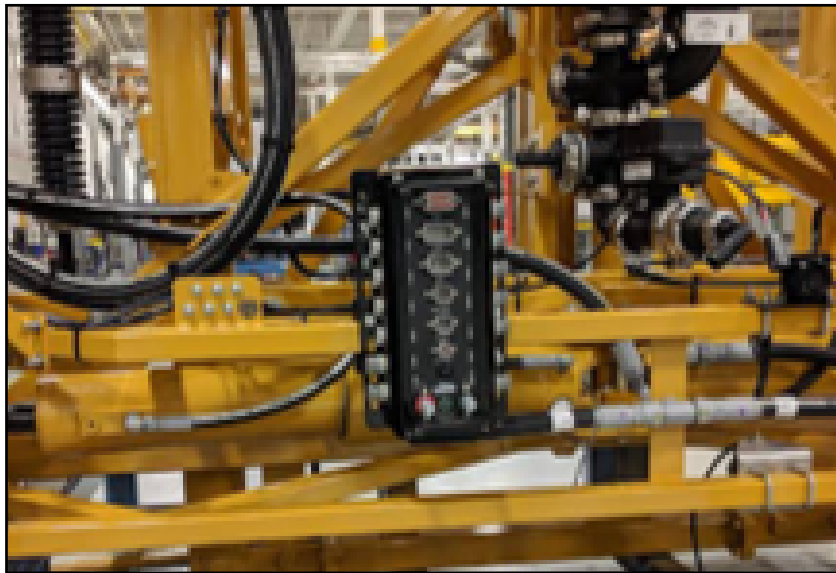

Figure 2: PPII Hub Location
- Remove the Gateway hub and mounting from rear center rack (Figure 2).